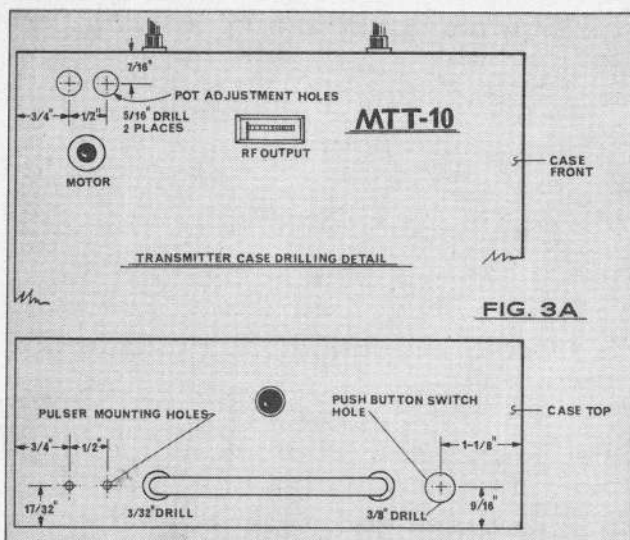

FIG. 3A
- ( ) 25. Following exactly the measurements and hole sizes given in Fig. 3A drill the necessary holes.